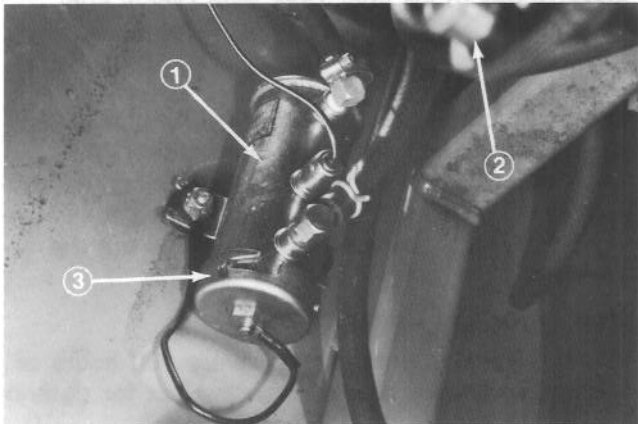

Figure 49
1. Fuel pump is located on inner frame bulkhead to left of drive coupling assembly (Fig. 49).
3. Place a drain pan under fuel pump and remove cover from fuel pump with 17 mm wrench (Fig. 49). Take care not to damage wire while removing cover.
6. Clean magnet of any residue (Fig. 50), insert filter into body, and install cover (Fig. 49).